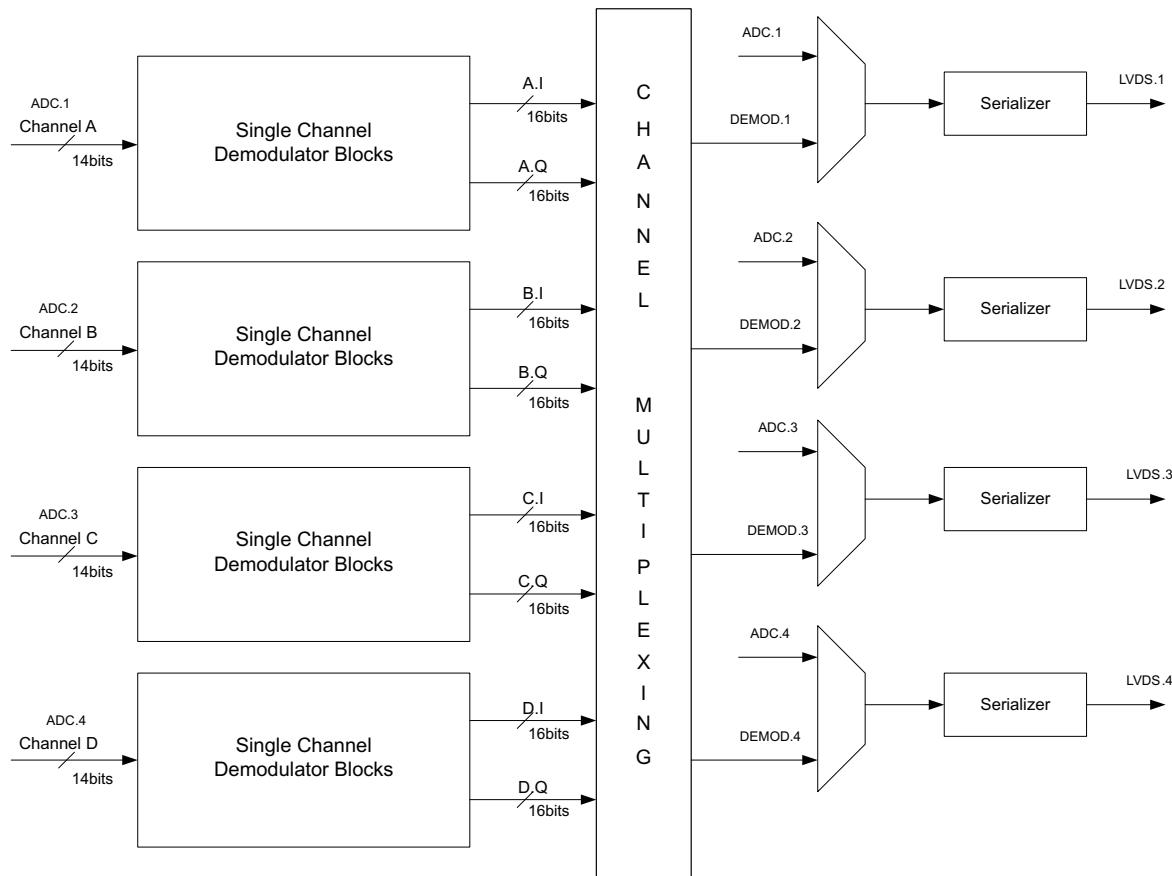

Figure 76. Channel Multiplexing
3. The decimator block has two functions: decimation filter and down sampler. Decimation filter is a variable coefficient symmetric FIR filter and its coefficients can be given using coefficient RAM. Number of taps of FIR filter is 16x decimation factor (M). For decimation factor of M, 8M coefficients must be stored in the coefficient bank. Each coefficient is 14-bit wide. Down-sampler gives out 1 sample followed by $M - 1$ samples zeros.
4. In Figure 76, channel multiplexing is implemented for flexible data routing: